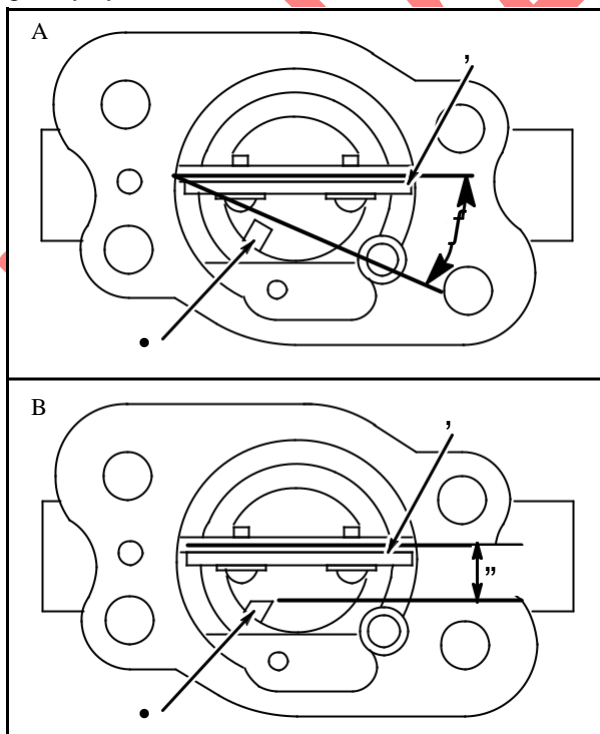

Fig. 95
Two carburetor bodies are used, depending upon the use of a fuel pump (illustration A) or gravity feed (illustration B) fuel delivery system, **Fig. 95**.
The carburetor bodies can be identified by looking down the carburetor throat and comparing the end of the discharge nozzle (1) in relation to the choke shaft (2), **Fig. 95**. On a fuel pump carburetor the end of the nozzle is at approximately a 20° angle (3) to the choke shaft (2). On a gravity feed carburetor the end of the nozzle is approximately parallel (4) to the choke shaft.